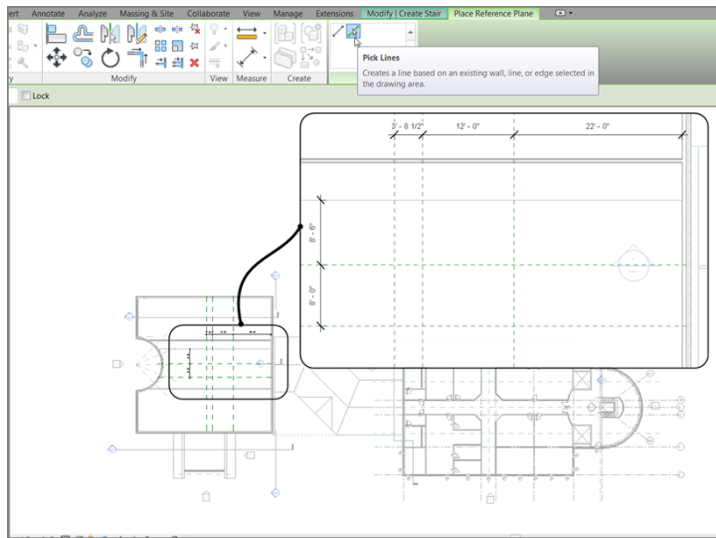

FIGURE 10.63: Using dimensions to lay out the centerlines of the stairs
2. Click the Pick Lines button, and then offset a grid, as shown in Figure 10.63.